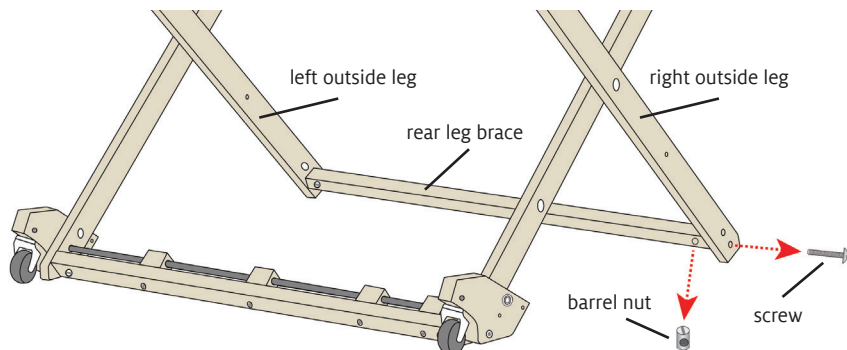

FIGURE 8: REMOVE REAR LEG BRACE HARDWARE
9. Begin at the right outside leg. Remove the machine screw and barrel nut holding the rear leg brace to the leg, as shown in Figure 8. Save the barrel nut for step 12.
24. Begin at the right outside leg. Remove the machine screw and barrel nut holding the rear leg brace to the leg, as shown in Figure 8. Save the barrel nut for step 12.